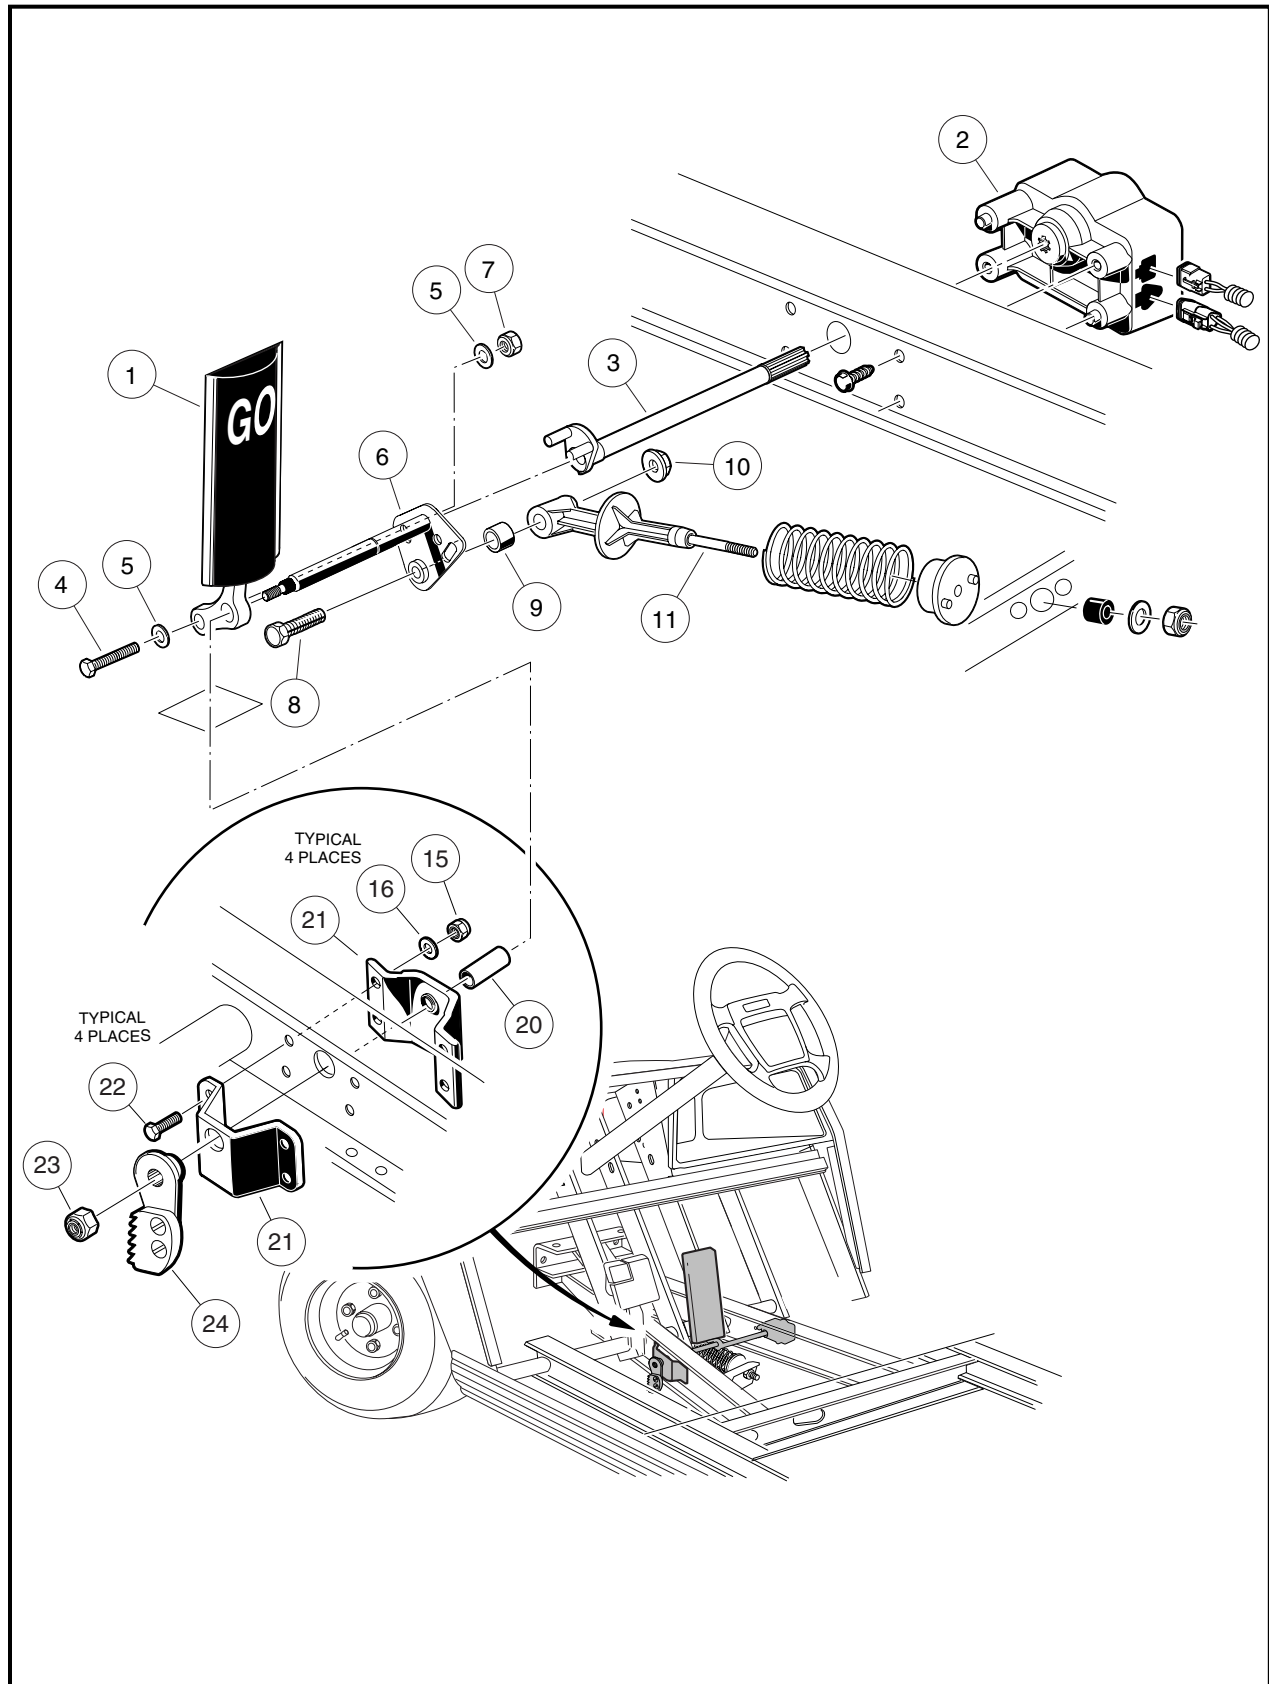

Figure 5-10 Accelerator Pedal – Electric Vehicle with MCOR
3. Remove the MCOR (2) and drive bar (3) as instructed (**Figure 5-10, Page 5-10**). See **MCOR Removal, Section 12, in the appropriate maintenance and service supplement.**
4. Use a 9/16-inch socket and 9/16-inch wrench to remove the nut (7), two washers (5), and bolt (4) securing the accelerator pedal (1) to the pivot rod (6) (**Figure 5-10, Page 5-10**).
5. Remove the nut (10) and bolt (8) from the accelerator pivot rod assembly (6).
6. Slide the spring retainer (11) off of the accelerator pivot rod.
7. Inspect the pivot support bearing (9) for wear and replace if necessary.
8. Use a marker to mark the position of the park brake ratchet (24) on the accelerator pivot rod (6). See following **NOTE.**
9. Remove the lock nut (23) from the accelerator pivot rod (**Figure 5-10, Page 5-10**).
10. Press the brake pedal slightly and slide the park brake ratchet (24) toward the end of the accelerator pivot rod. Rotate the ratchet and remove it from the pivot rod.
11. Remove the pivot rod (6) and spacer (20) from the accelerator pivot rod supports (21).
12. Inspect the accelerator pivot rod supports (21) for wear and damage and replace as necessary. If the pivot rod supports do not require replacement, loosen (but do not remove) the four bolts (22) and lock nuts (15) to make installation of the pivot rod easier.
13. Remove the accelerator pedal (1) from the vehicle (**Figure 5-10, Page 5-10**).
1. If the accelerator pivot rod supports were replaced, position the supports (21) on the vehicle frame and install the four bolts (22), flat washers (16), and lock nuts (15) (**Figure 5-10, Page 5-10**). Finger-tighten hardware at this time.
2. Insert the lower end of the accelerator pedal (1) through the floorboard and install the accelerator pivot rod (6) through the uppermost hole in the pedal (**Figure 5-10, Page 5-10**).
3. Install plastic spacer (20) on pivot rod (6).
4. Insert the pivot rod through the pivot rod supports (21) on the vehicle frame.
5. Tighten the four bolts (22) attaching the pivot rod supports to the frame to 75 in-lb (8.5 N·m).
6. Insert the bolt (4), with washer (5), through the lower hole in the pedal and through the pivot rod. Secure with washer (5) and new lock nut (7) (**Figure 5-10, Page 5-10**). Finger-tighten lock nut at this time.
7. Install the bolt (8) through the pivot rod (6) and spring retainer (11). Secure these parts with the nut (10) (**Figure 5-10, Page 5-10**). Tighten the nut to 50 in-lb (5.5 N·m).
11. Install lock nut (23) on pivot rod (**Figure 5-10, Page 5-10**). Tighten to 18 ft-lb (24.5 N·m).
12. Install the MCOR (2) and drive bar (3) as instructed. **See MCOR Removal, Section 12, in the appropriate maintenance and service supplement.**